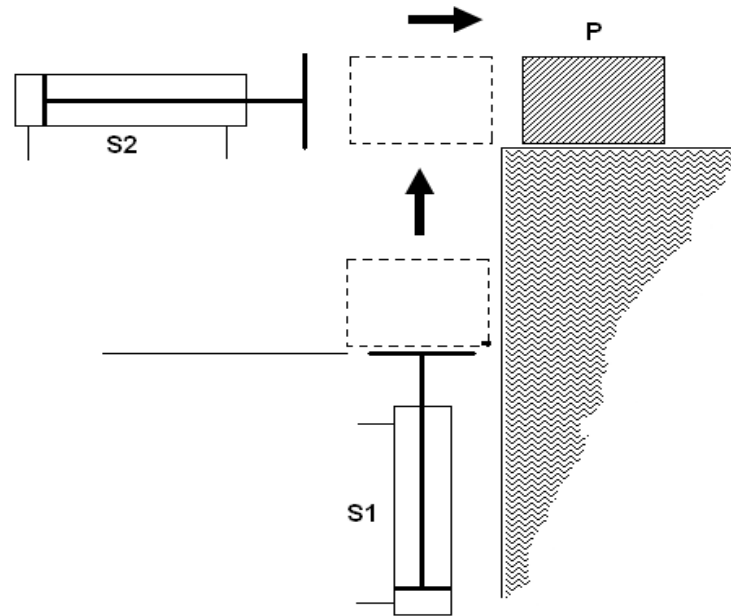

Figure 6
6. Figure 6 shows a hydraulic system function to lift up the heavy parts.
Based on Figure 6, complete the schematic diagram of hydraulic system to push the heavy product P upward and rightward so that its rest onto situated place. The movements of the cylinder rod are based on the following characteristics: